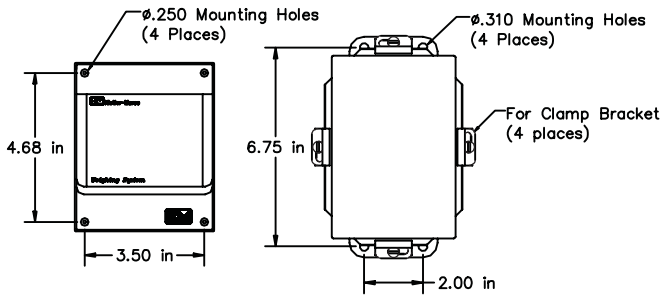

Figure 3-7: Plastic and Stainless Steel Junction Box Mounting
1. See Figure 3-7. Hold the junction box at the desired mounting location. Mark the four mounting holes.